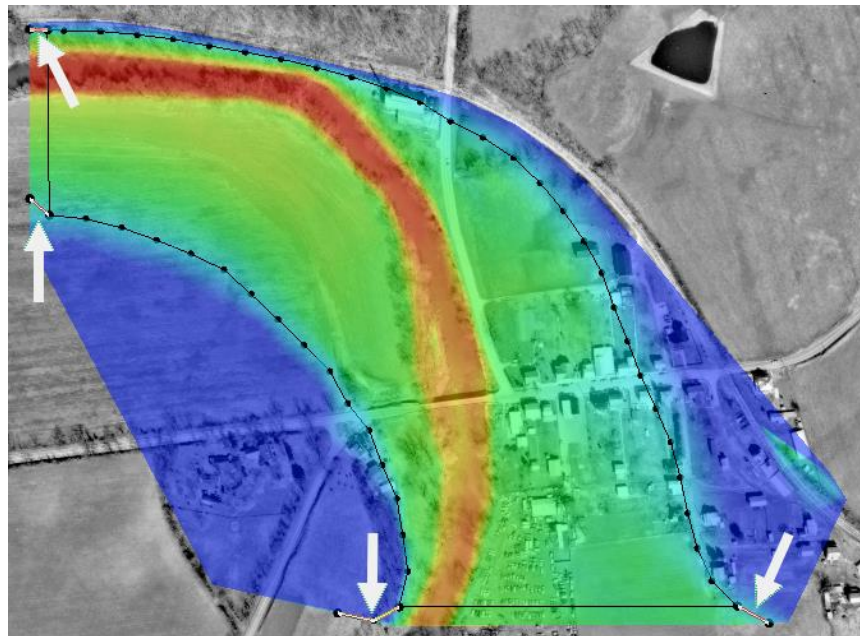

Figure 6 Dangling arcs to be deleted
12. Using the **Select Feature Arc**  tool, delete the four dangling arcs beyond the upstream and downstream boundary arcs (indicated by arrows in Figure 6) by selecting each one and pressing the *Delete* key.